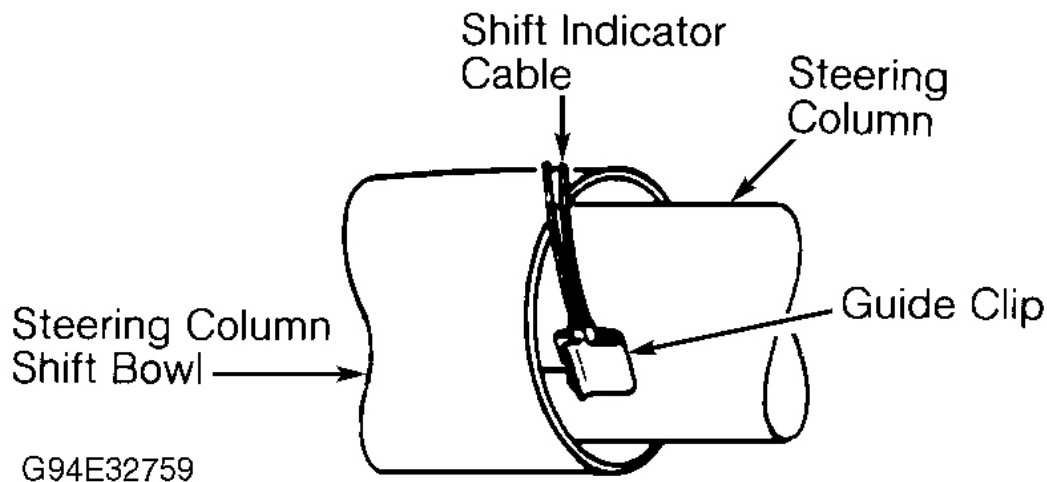

Fig. 6: Adjusting Column Shift Indicator (All Except "E" & "K" Bodies)
2. With gear selector in Neutral, holes must be visible on both sides of pointer. Pointer must cover portions of "1" or be to right of "1" when transaxle is in LOW position. See **Fig. 6** .